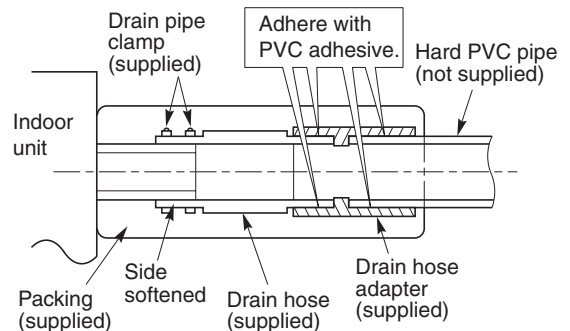

Fig. 1-100
- Use the supplied drain pipe to connect the drain pipe with the drain outlet of the indoor unit. (Fig. 1-100)